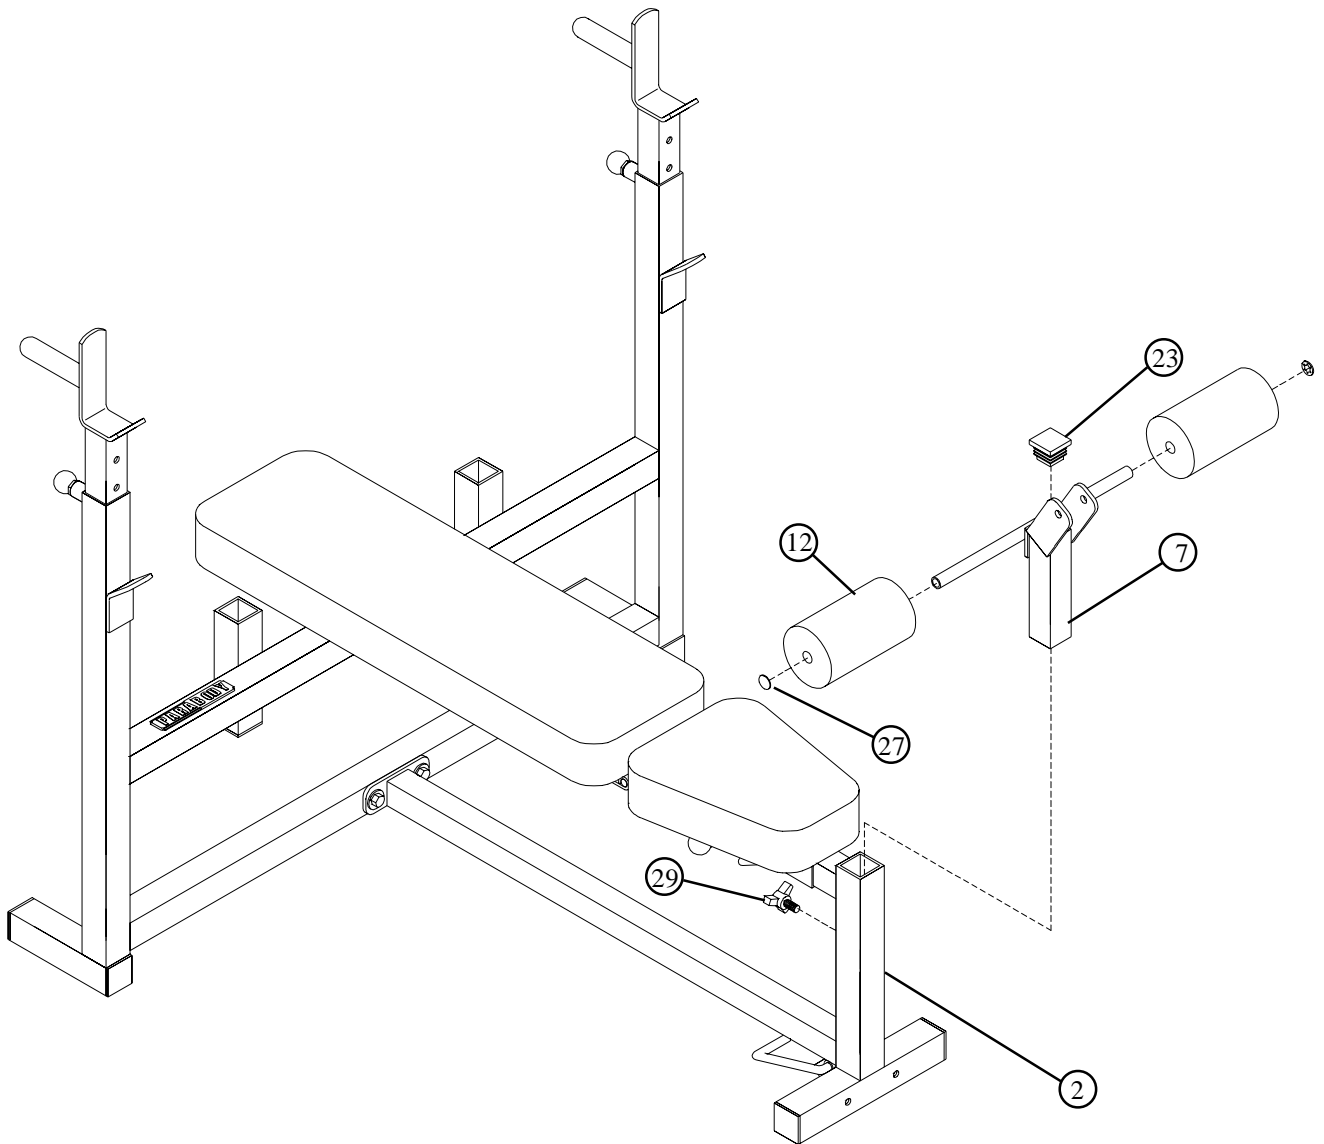

**FIGURE 6**
- Assembly pad assemblies by aligning BACK SUPPORTS (34) and HINGE TABS (9) with SEAT ADJUST (4) using one 1/2" X 9" BOLT (35) and one 1/2" JAM NUT (42) as shown in FIGURE 6.